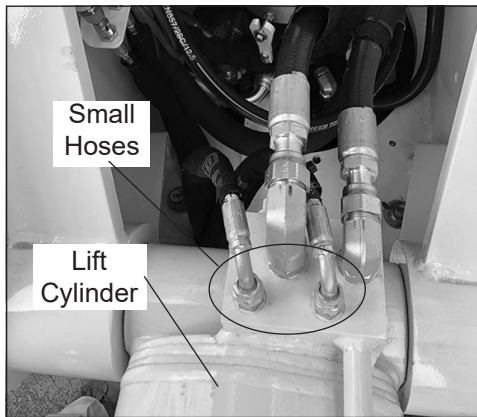

Figure 2 — Hose Connections
3. Visually inspect where the smaller hoses are connected to the boom lift cylinder (refer to Figure 2).